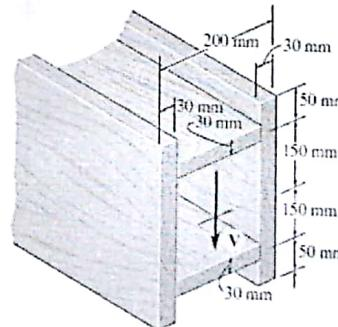

Fig. 3
- 3.** If the beam is subjected to a shear force of  $V = 20 \text{ kN}$ , determine the maximum shear stress developed in the beam. [Fig. 3]